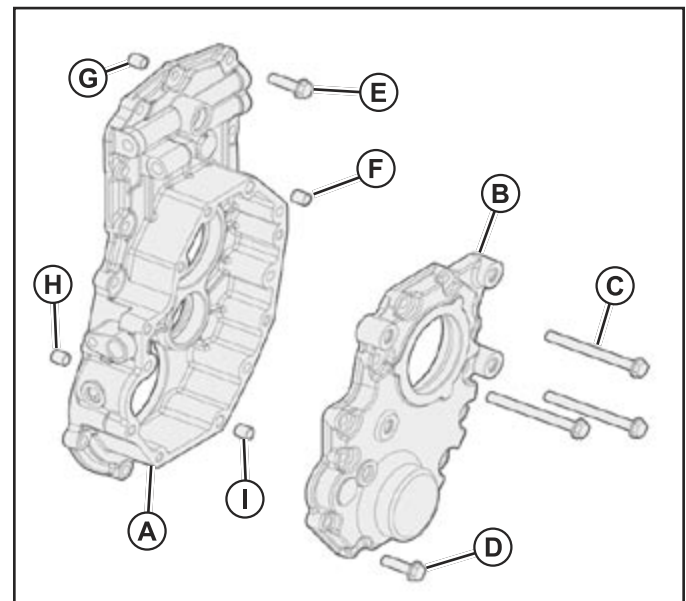

Fig. 24, Rear PTO Cover Assembly
4. Carefully position the rear case (A) on the transaxle and onto the lower dowel pin (H). Use a pry bar between the PTO and frame to carefully move the PTO approximately 1.5 mm (1/16-in.) to the right to align the top of the case with the upper dowel pin (G). Secure with (14) cap screws (E). (Fig. 24)
5. Apply a bead of silicon sealant to PTO gear case (A) mating surface.
6. Carefully position the PTO cover (B) on the PTO case (A). Align the top of the cover with the upper dowel pin (F) and onto the lower dowel pin (I). Secure with (3) cap screws (C) and (10) cap screws (D). (Fig. 24)